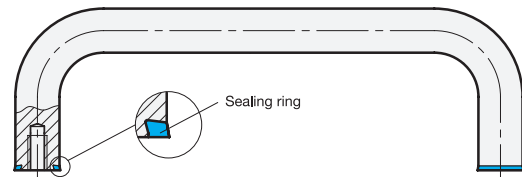

Fig. 1
- The U-handle may only be used together with the supplied sealing ring. The sealing ring has a conical shape. The correct installation position must therefore be observed (Fig. 1).